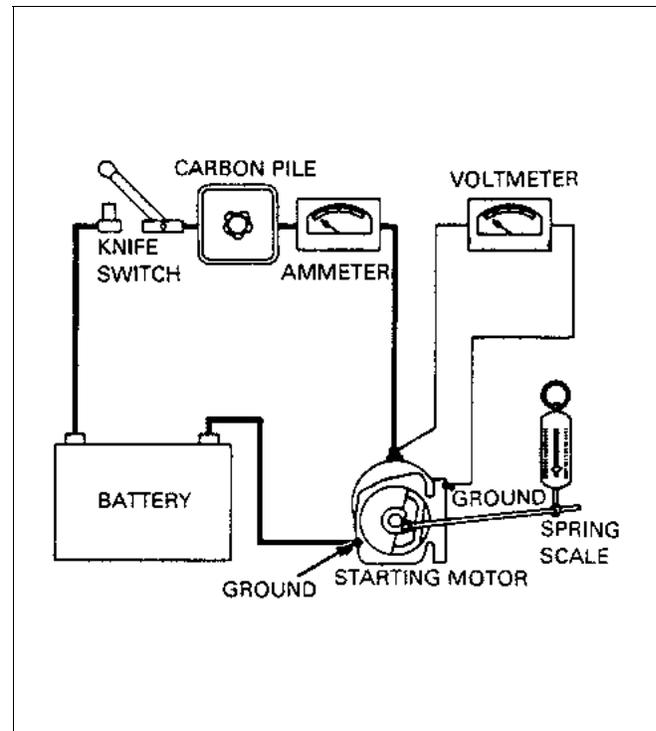

Figure 80-6. Stall-Torque Hook-up
- b. If no difficulty is indicated in the above test, a stall torque test may be made to see if the starting motor is producing its rated cranking power. Make test connections as shown in Figure 80-6.